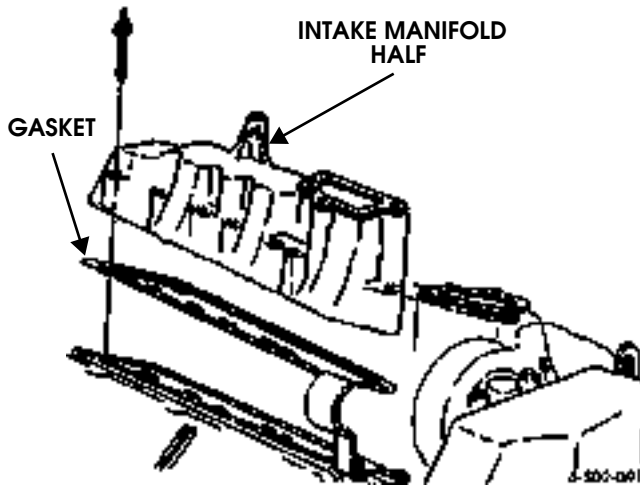

Figure 2-70: Left Side Intake Manifolds Removal/Installation
3. Lift and remove manifold halves and gaskets (Figures 2-70 and 2-71). Discard gaskets.